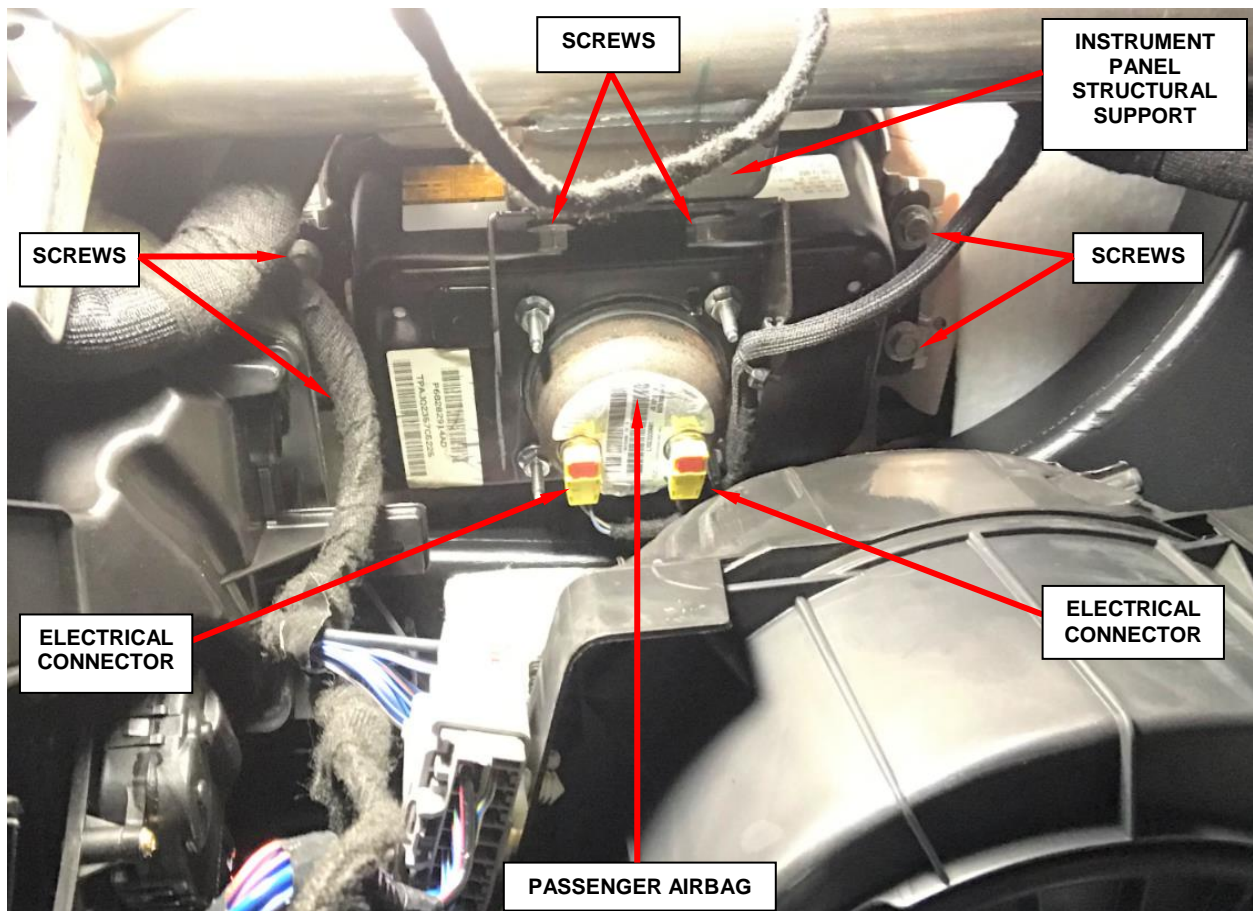

Figure 6 – Passenger Airbag
12. Reach through the instrument panel glove box opening to access and disconnect the two instrument panel electrical connectors from the two Passenger Airbag (PAB) initiators (Figure 6).
13. Reach through the instrument panel glove box opening to access and remove and save the two screws that secure the PAB lower bracket to the instrument panel structural support (Figure 6).
14. Remove and save the four screws that secure the two upper PAB mounting brackets to the U-nuts on each side of the PAB retainer or chute on the underside of the instrument panel cover (Figure 6).